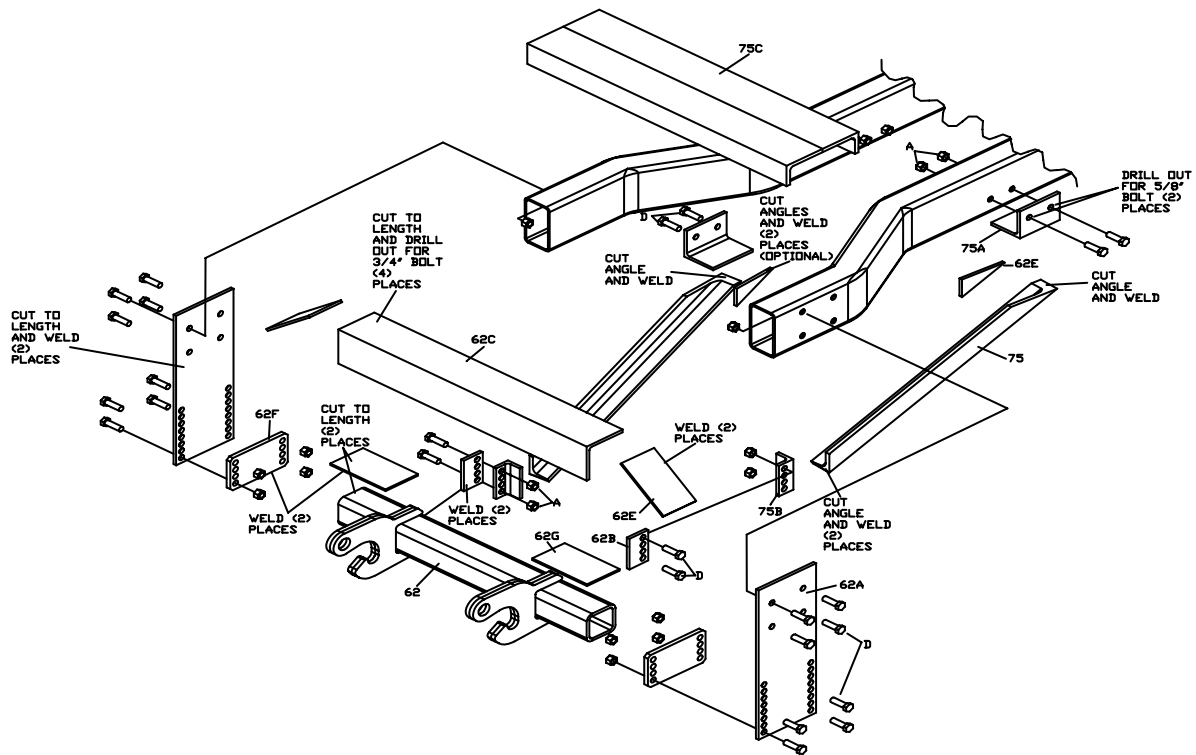
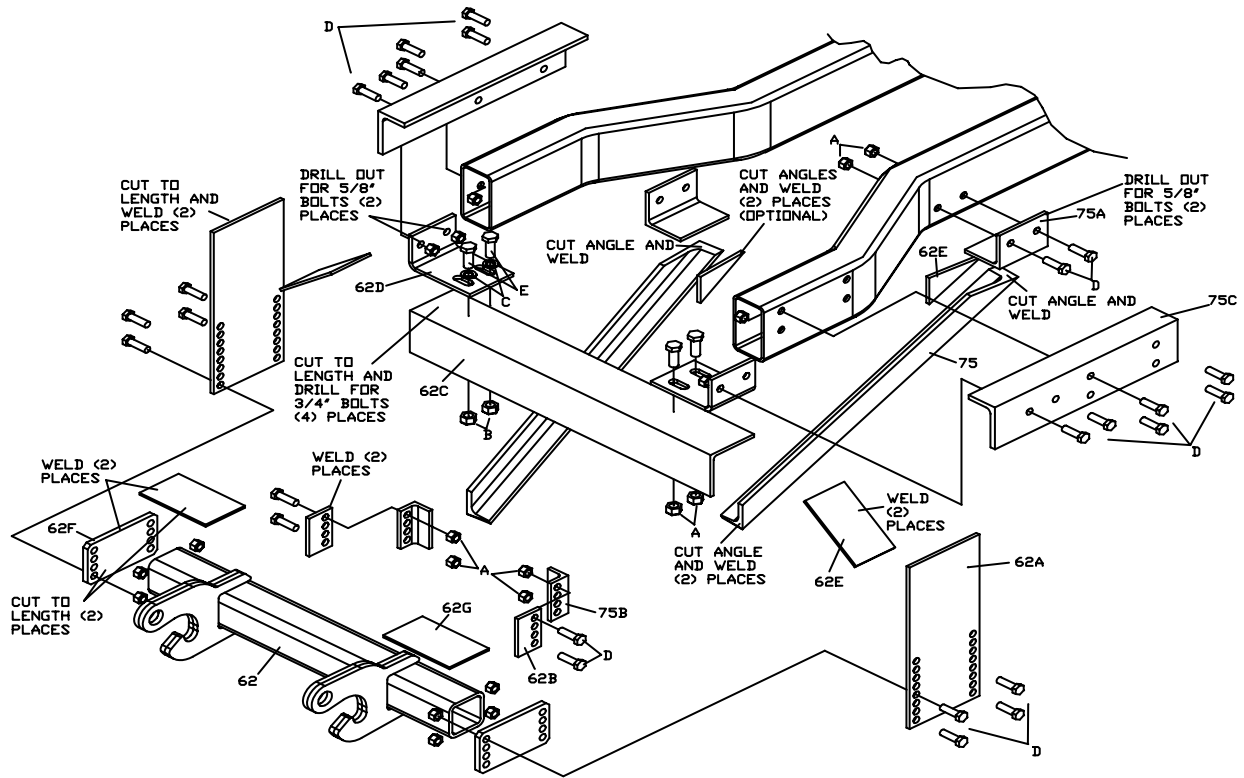
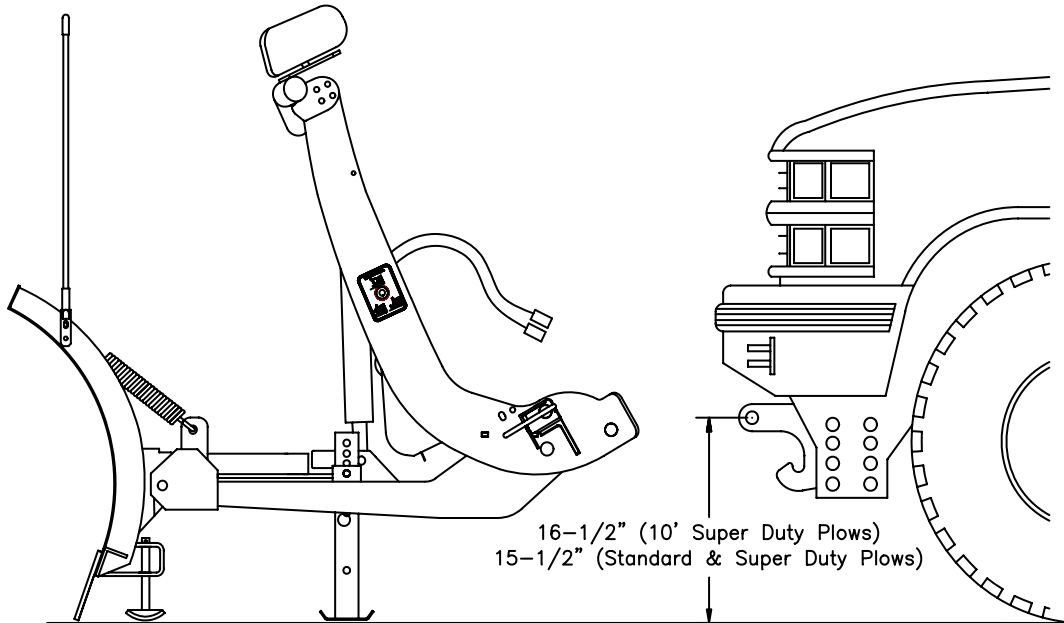

Figure 1
Figure 2
Figure 3
1. Cut UPPER SUPPORT ANGLE (Ref. 75C, Fig. 1) and the FRONT ANGLE BEAM (Ref. 62C, Fig. 1) to match the width of the outside of the frame. Install on top of the frame rails by tack welding or bolting. Tack weld PUSH BEAM SUPPORT PLATES to the FRONT ANGLE BEAM. The height of the Push Beam Hooks after installing the PUSH BEAM SUPPORT PLATES should be 16 ½" (see Pg. 6, Fig. 3). Weld the FRONT ANGLE GUSSETS (Ref. 62E, Fig. 1) to the inside of the FRONT ANGLE BEAM and PUSH BEAM SUPPORT PLATES. Mount the assembled FRONT ANGLE BEAM to the frame and assemble it to the frame and UPPER SUPPORT ANGLES by either tack welding or bolting it up.
2. Cut the ends of PUSH BEAM ASSEMBLY (Ref. 62, Fig.1) and BAR GUSSETS (Ref. 62G, Fig. 1) to a length that will allow it to fit inside of PUSH BEAM SUPPORT PLATES when PUSH BEAM SIDE PLATES (Ref. 62F, Fig. 1) are welded to it. Note: *This should be the distance between PUSH BEAM SUPPORT PLATES less than 1 inch.* Tack weld PUSH BEAM SIDE PLATES and BAR GUSSETS to PUSH BEAM ASSEMBLY. Position FRAME MOUNT ANGLE BRACKETS (Ref. 75A, Fig. 1) on the frame and drill out for 5/8" bolts then mount with 5/8" – 11 x 2 Hex Head Cap Screws and 5/8" – 11NC Oval Top Lock Nuts provided. Mount PUSH BEAM ASSEMBLY to PUSH BEAM SUPPORT PLATES using 5/8" – 11 x 2 Hex Head Cap Screws and 5/8" – 11NC Oval Top Lock Nuts provided. Fasteners should only be finger tight. Determine the distance between FRAME MOUNT ANGLE BRACKETS. This distance will be used when welding ATTACHMENT ANGLE MOUNTING TABS (Ref. 62B, Fig. 1) to PUSH BEAM ASSEMBLY. Also, determine the distance and angle from PUSH BEAM ASSEMBLY to FRAME MOUNT ANGLE BRACKETS. Remove PUSH BEAM ASSEMBLY and FRAME MOUNT ANGLE BRACKETS.
3. Cut each end of ANGLE BRACKET ANGLE ARMS (Ref. 75, Fig. 1) to the appropriate angles and length. Tack weld PUSH BEAM ATTACHMENT ANGLES (Ref. 75B, Fig. 1) and FRAME MOUNT ANGLE BRACKETS to ANGLE BRACKET ANGLE ARMS. Tack weld ATTACHMENT ANGLE MOUNTING TABS to PUSH BEAM ASSEMBLY. Re-mount PUSH BEAM ASSEMBLY and FRAME MOUNT ANGLE BRACKETS. Bolt PUSH BEAM ATTACHMENT ANGLES to ATTACHMENT ANGLE MOUNTING TABS using 5/8" – 11 x 2 Hex Head Cap Screws and 5/8" – 11NC Oval Top Lock Nuts provided.
4. If necessary add ANGLE ARM GUSSET (Ref. 62E, Fig. 1) to strengthen connection between ANGLE BRACKET ANGLE ARM and FRAME MOUNT ANGLE BRACKET. Gussets will need to be trimmed for best fit.
6. With all undercarriage parts in place, securely fasten all mounting hardware. It is important that all fasteners be properly torqued (see Fig. 3) to assure a safe operating plow.
1. Mount UPPER SUPPORT ANGLES over frame and cut so they are flush with the front bumper. Also cut FRONT ANGLE BEAM (Ref. 62C, Fig. 2) to match the width of the vehicle's frame. Tack weld PUSH BEAM SUPPORT PLATES to the FRONT ANGLE BEAM. Bolt FRONT ANGLE MOUNTS to UPPER SUPPORT ANGLES with 5/8" – 11 x 2 Hex Head Cap Screws (Ref. D, Fig. 2) and 5/8" – 11NC Oval Top Lock Nuts (Ref. A, Fig. 2) provided. The height of the Push Beam Hooks after installing the PUSH BEAM SUPPORT PLATES should be 16 1/2" (see Pg. 6, Fig. 3). Drill out (4) holes for 3/4" bolts in FRONT ANGLE BEAM to match the slotted holes in the FRONT ANGLE MOUNTS. Mount the assembled FRONT ANGLE BEAM to the FRONT ANGLE MOUNTS using 3/4" – 10 x 2NC Hex Head Cap Screws (Ref. E, Fig. 2), 3/4" Flat Washers (Ref. C, Fig. 1), and 3/4" – 10 Lock Nuts (Ref. B, Fig. 2) provided. Tack weld the FRONT ANGLE GUSSETS (Ref. 62E, Fig. 2) to the inside of the FRONT ANGLE BEAM and PUSH BEAM SUPPORT PLATES. Note: *It will be difficult to bolt the FRONT ANGLE BEAM to the FRONT ANGLE MOUNTS if the FRONT ANGLE GUSSETS are welded in place first.*
2. Cut the ends of PUSH BEAM ASSEMBLY (Ref. 62, Fig. 2) and BAR GUSSETS (Ref. 62G, Fig. 2) to a length that will allow it to fit inside of PUSH BEAM SUPPORT PLATES when PUSH BEAM SIDE PLATES (Ref. 62F, Fig. 2) are welded to it. Note: *This should be the distance between PUSH BEAM SUPPORT PLATES less than 1 inch.* Tack weld PUSH BEAM SIDE PLATES and BAR GUSSETS to PUSH BEAM ASSEMBLY. Position FRAME MOUNT ANGLE BRACKETS (Ref. 75A, Fig. 2) on the frame and drill out for 5/8" bolts then mount with 5/8" – 11 x 2 Hex Head Cap Screws and 5/8" – 11NC Oval Top Lock Nuts provided. Mount PUSH BEAM ASSEMBLY to PUSH BEAM SUPPORT PLATES using 5/8" – 11 x 2 Hex Head Cap Screws and 5/8" – 11NC Oval Top Lock Nuts provided. Fasteners should only be finger tight. Determine the distance between FRAME MOUNT ANGLE BRACKETS. This distance will be used when welding ATTACHMENT ANGLE MOUNTING TABS (Ref. 62B, Fig. 2) to PUSH BEAM ASSEMBLY. Also, determine the distance and angle from PUSH BEAM ASSEMBLY to FRAME MOUNT ANGLE BRACKETS. Remove PUSH BEAM ASSEMBLY and FRAME MOUNT ANGLE BRACKETS.
3. Cut each end of ANGLE BRACKET ANGLE ARMS (Ref. 75, Fig. 2) to the appropriate angles and length. Weld PUSH BEAM ATTACHMENT ANGLES (Ref. 75B, Fig. 2) and FRAME MOUNT ANGLE BRACKETS to ANGLE BRACKET ANGLE ARMS. Weld ATTACHMENT ANGLE MOUNTING TABS to PUSH BEAM ASSEMBLY. Re-mount PUSH BEAM ASSEMBLY and FRAME MOUNT ANGLE BRACKETS. Bolt PUSH BEAM ATTACHMENT ANGLES to ATTACHMENT ANGLE MOUNTING TABS using 5/8" – 11 x 2 Hex Head Cap Screws and 5/8" – 11NC Oval Top Lock Nuts provided.